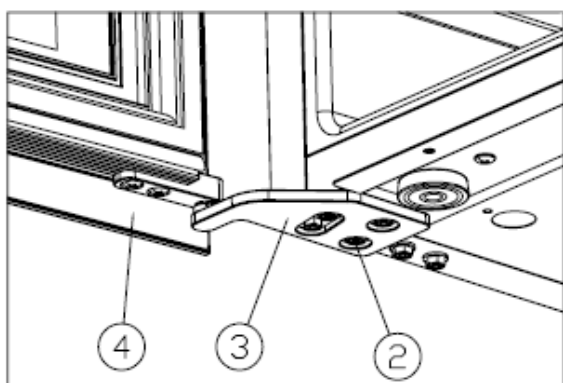

Figure 5
- ✧ Install the right upper hinge ③,and screw tight theM5*16 screws②.[Figure 5]